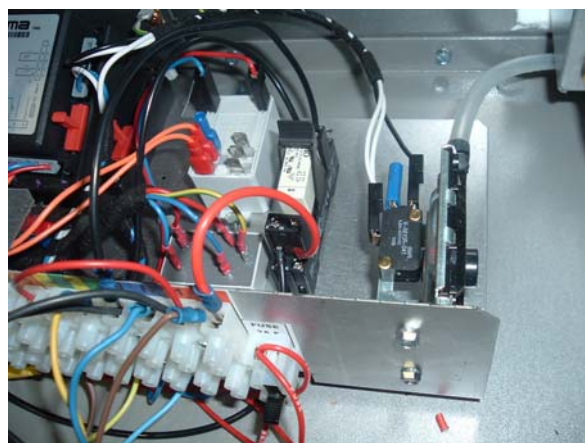

fig.3 – Detail of relay position.
3. Locate and position the pre-wired relay assembly (fig.1 above) onto the mounting plate utilising a spare pre-punched hole (see fig.3 for UDSA example).